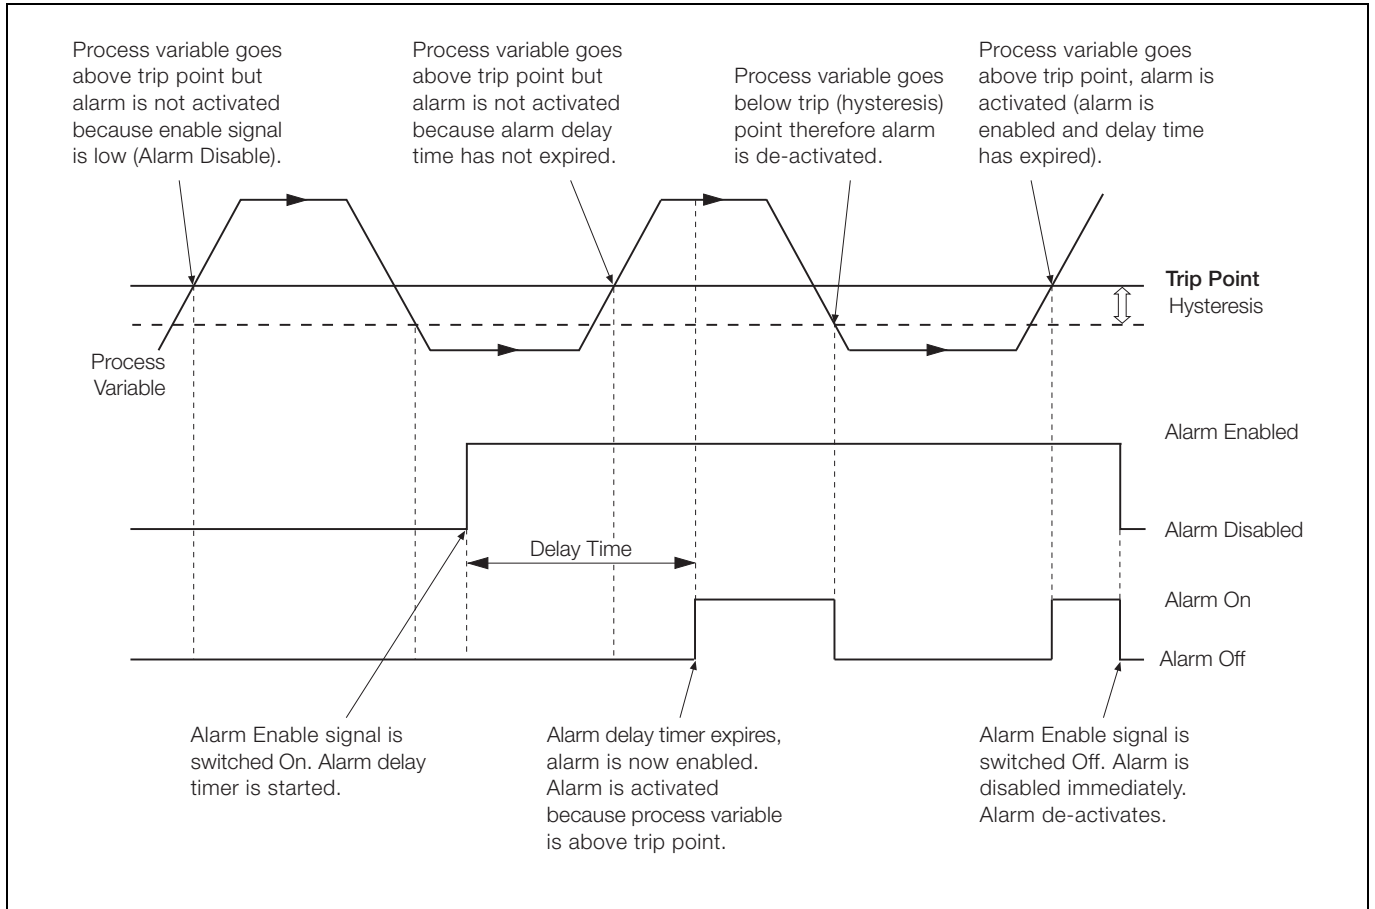

Fig. 6.15 Delayed High/Low Process Alarms
- Delayed high/low process – see Fig. 6.15, page 83
Note. Delayed process alarms only – see Fig. 6.15.
Note. For Delayed Process alarm operation, see Fig. 6.15, page 83.